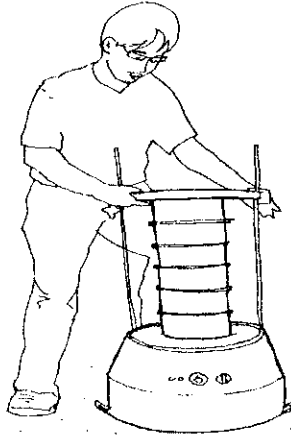

FIGURE 3
3. Figure 3 shows a sieve analysis test